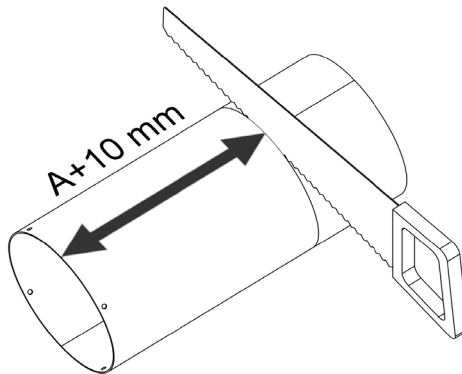

Figure 8 - Shortening of the Ø250 mm tube
The Ø250 mm tube (4) is sawed the length of $A + 10$ mm, measured from the end of the tube with the 4 holes, see Figure 8 below.